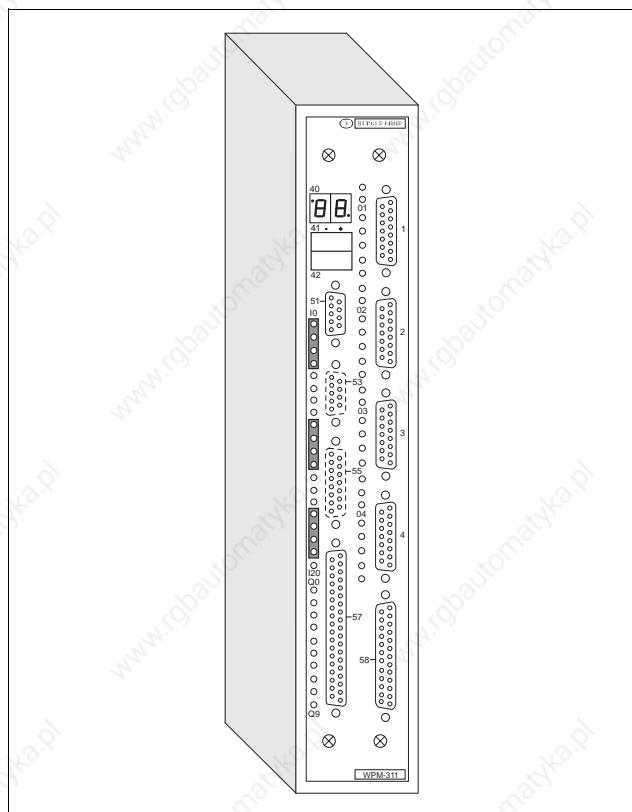

Fig. 1-1 WPM-311 in 3-phase housing
- WPM-311 in 3-phase housing (fig. 1-1), matching the 3-phase stepping motor product family